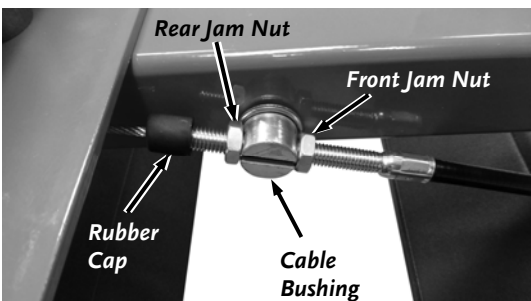

Figure 25
31. Reinstall the Jam Nut and secure the Cable to the Bushing by tightening the two Jam Nuts against the Bushing using two 9/16" Wrenches (**Figure 25**).